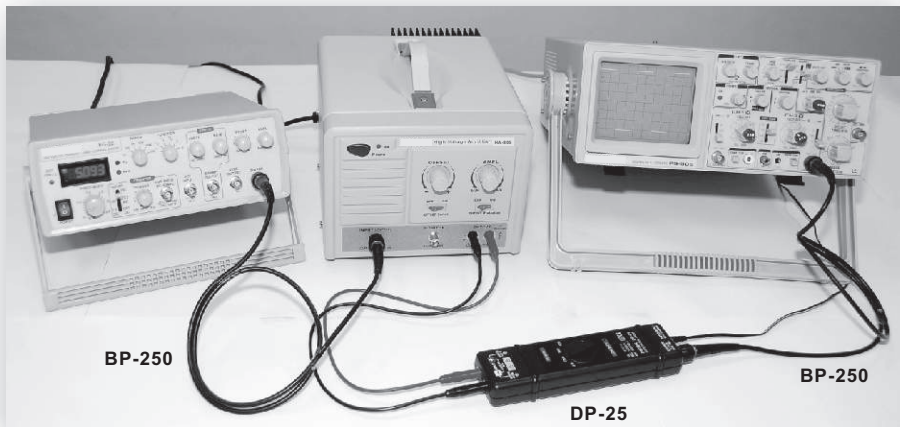

Figure 19.
5.2 Use Function Generator as input, and HA-805 output connects to Differential Probe as interface to transmit signal to oscilloscope to observe. (Figure 19.)